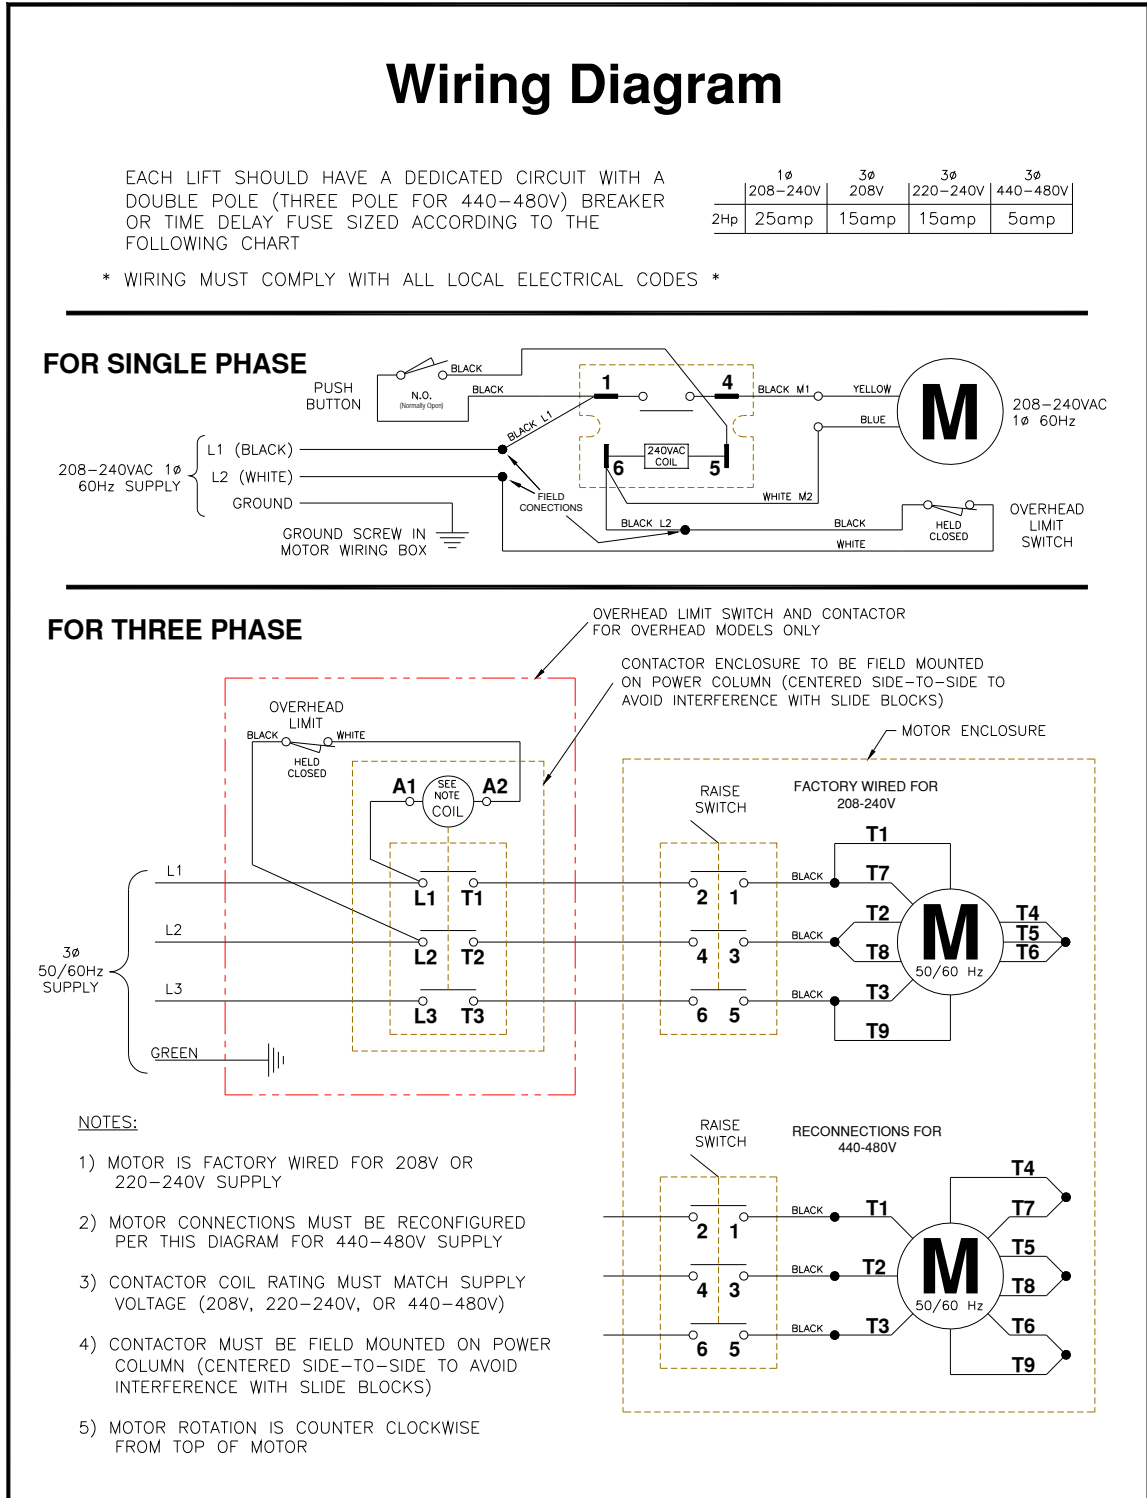

Figure 10
17. Connect the overhead shutoff switch to the power unit (Fig. 10).
18. Connect the power unit to a suitable electrical power (Fig. 10).